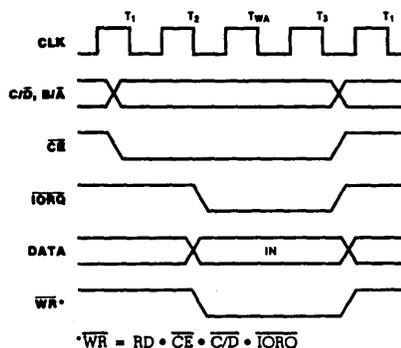

Figure 12. Write Cycle Timing
**Write Cycle.** Figure 12 illustrates the timing for programming the Z-80 PIO or for writing data to one of its ports. No Wait states are allowed for writing to the PIO other than the automatically inserted  $T_{WA}$ . The PIO does not receive a specific write signal; it internally generates its own from the lack of an active  $\overline{RD}$  signal.